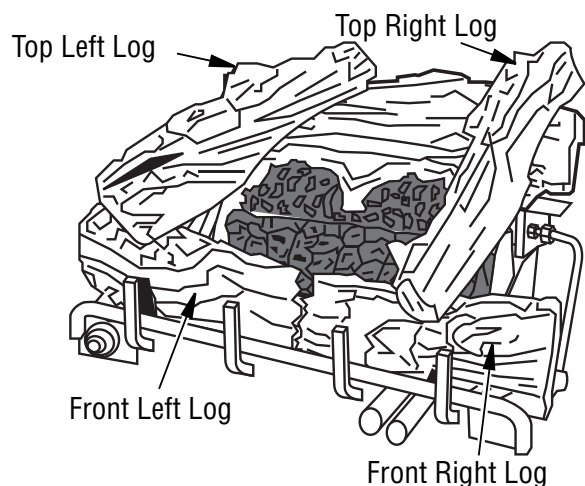

Figure 27 - Installing Logs
4. Place top left log as shown in **Figure 27**. The bottom of the log is shaped to fit onto the recessed areas of the front left log and the rear log. The recessed areas are painted yellow.
5. Place top right log as shown in **Figure 27**. The bottom of the log is shaped to fit onto the recessed areas of the front right log and the rear log. The recessed areas are painted yellow.